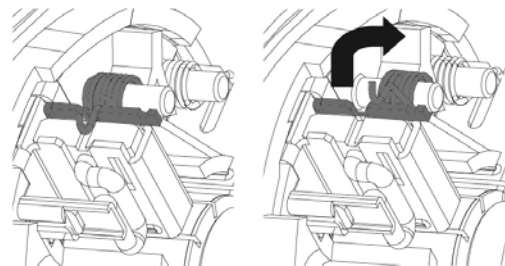

Fig.3
- (3). To pull right and left sides of springs by arrow direction.( See Fig.3)